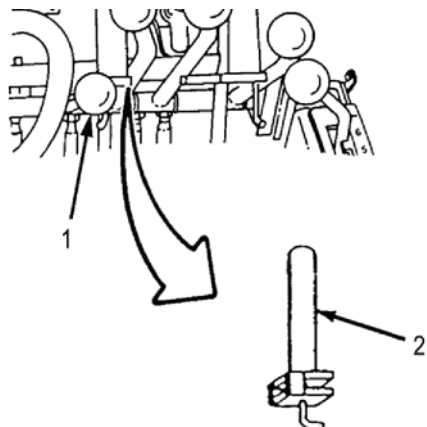
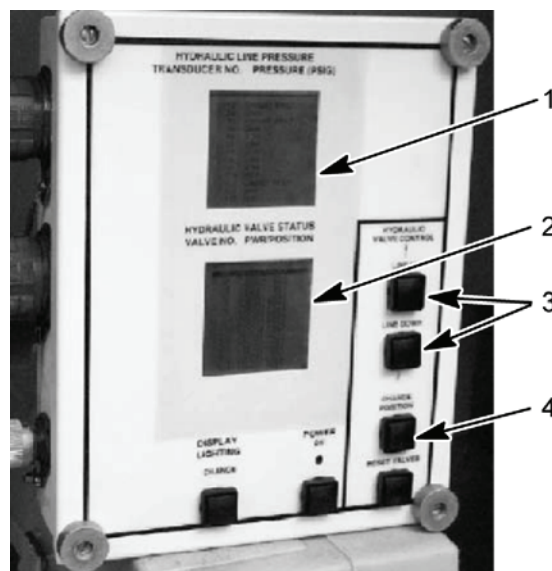

Figure 5. Winch Control
Figure 6. HDC Control Box
- Have assistant start vehicle engine and hold WINCH CONTROL lever (Figure 5, item 1) in PAY IN position. Read transducer T-1 hydraulic pressure on the HDC display (Figure 6, item 1).
- Return WINCH CONTROL lever (Figure 5, item 1) to NEUTRAL position.
- Using LINE UP or LINE DOWN button (Figure 6, item 3), select V14 on the HDC display (Figure 6, item 2). Open V14 on the HDC display (Figure 6, item 2) by selecting the CHANGE POSITION button (Figure 6, item 4) on the HDC control box.